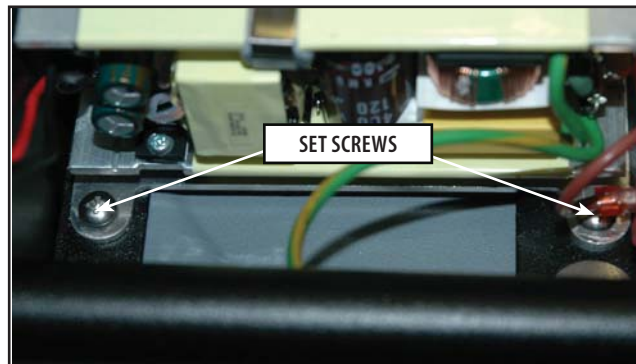

FIGURE 6.8
6. Remove the two screws securing the Power Supply to the Base using a #2 Phillips screwdriver. **Refer to Figure 6.8.**